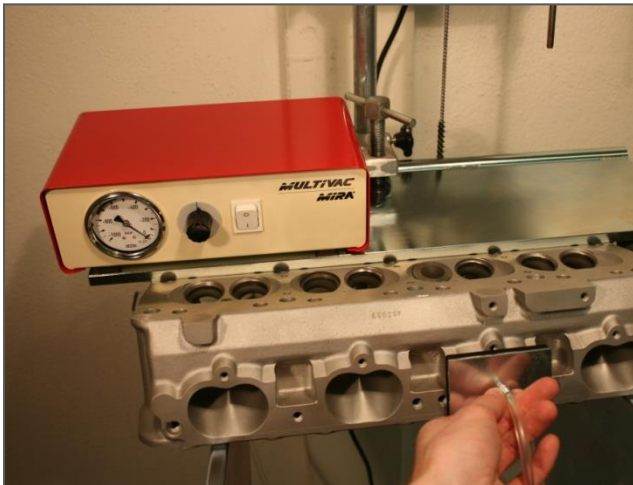

Fig. 29
27. After finishing the valve seats, check the seat for proper sealing, preferably using the separate MIRA MUV Multivac Vacuum tester (See "Special accessories" on page 33). Fig. 29